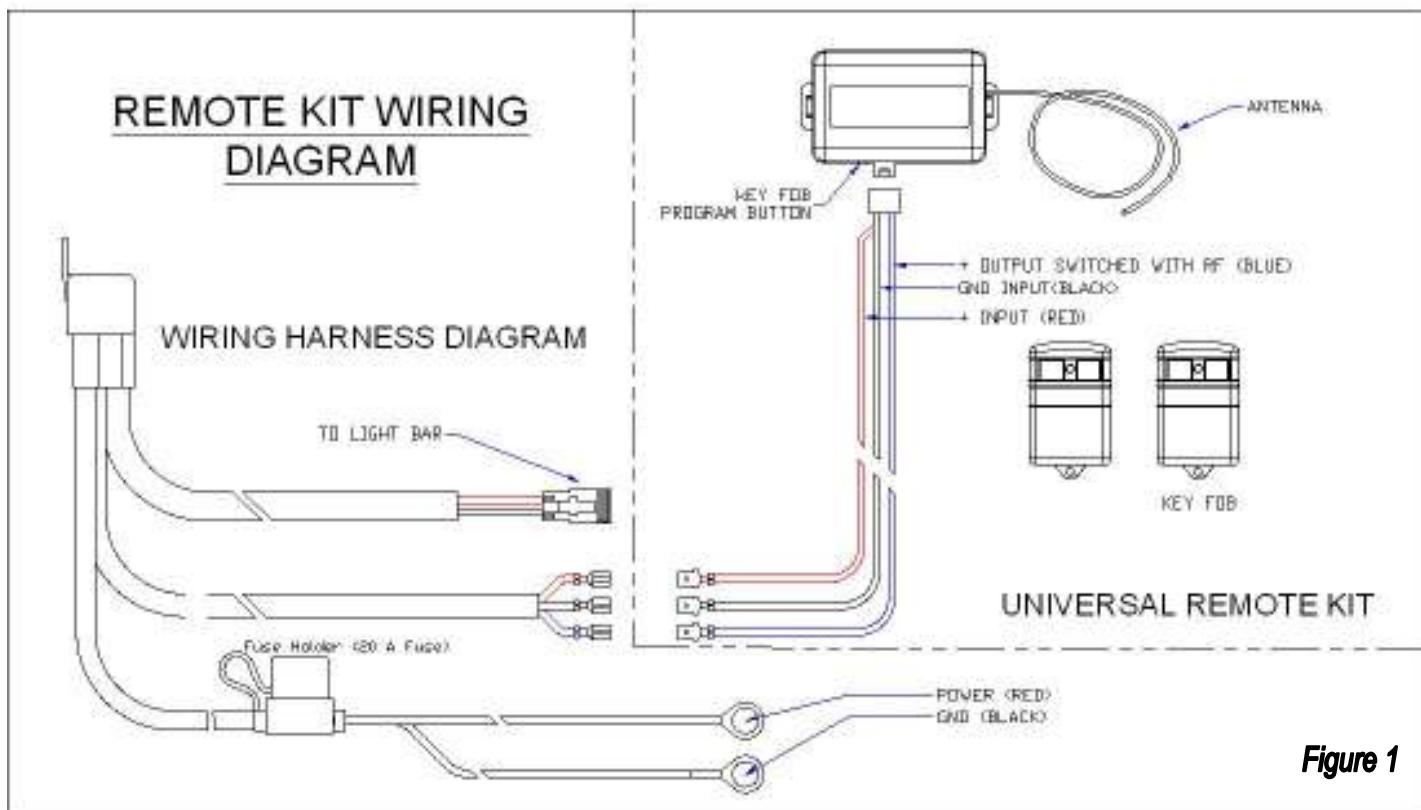

Figure 1
3. Connect the provided wiring harness to the LED Light bar Wiring harness as outlined in **Figure 1**.